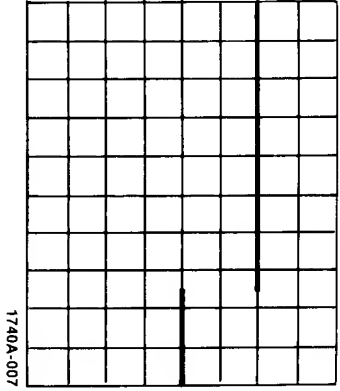

Figure 6b. Delayed Sweep Display
4. Press DLY'D **48** and note the intensified portion of the trace is now displayed across the entire CRT (see figure 6b).